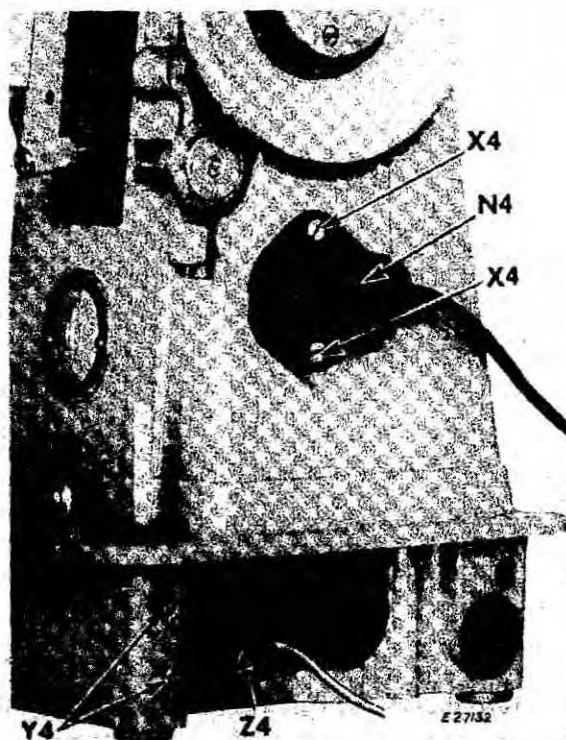

Fig. 305. Terminal Blocks
1. Remove male-half of two-pin terminal **Z4**, **Fig. 305**.
2. Remove female-half of three-pin terminal **N4**, **Fig. 305**.
5. Remove two screws **X4**, **Fig. 305**.
6. Loosen two screws **Y4**, **Fig. 305** and push female-half of two-pin terminal into recess beneath bed of machine.
1. Install both terminals with their wire leads in machine, as shown in **Fig. 305**.
2. Insert sewing light leads up through cavity provided for them in machine arm, as shown at **B5**, **Fig. 305**.
7. Replace female-half of three-pin terminal at **N4**, **Fig. 305**.
8. Replace male-half of two-pin terminal at **Z4**, **Fig. 305**.